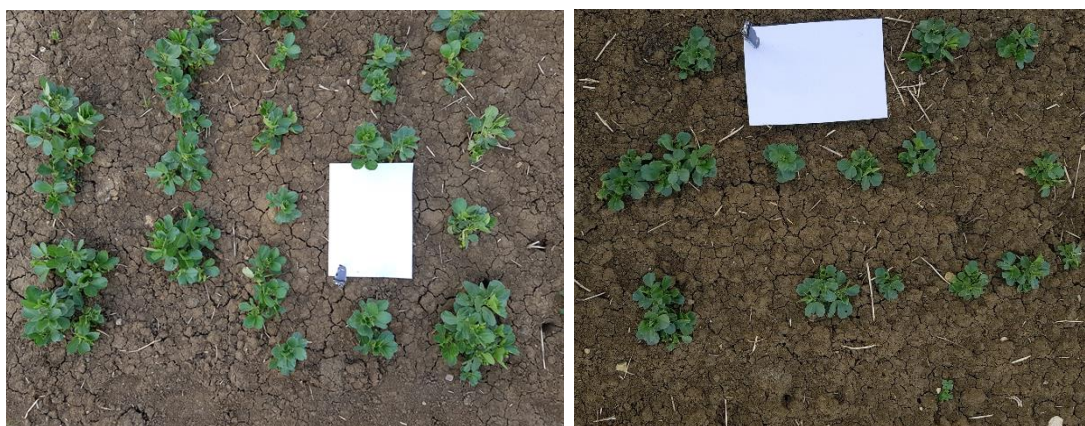

Figure 1. Example photographs for plant population estimate
- Take images at three locations from within the 2ha area entered in the YEN. Take the photo from above the crop looking vertically down, showing as wide an area as possible and including an A4 piece of paper flat on the ground for scale. See examples in Figure 1.